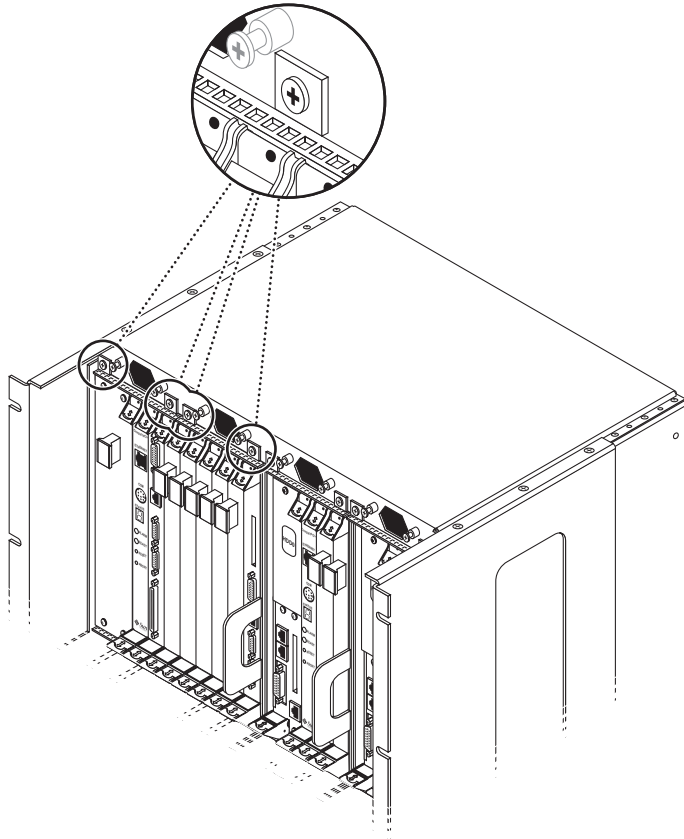

FIGURE 4-4 Tightening the Screws at the Top of a Netra ct 800 Server
- If you are installing a Netra ct 800 server, tighten the *four* black captives screws at the top of the server (FIGURE 4-4).